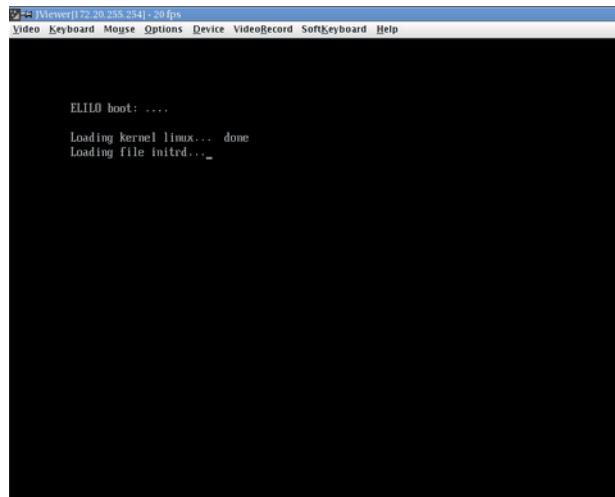

Figure 3-20 ELILO Boot Manager
6. The ELILO boot manager starts executing, as shown in Figure 3-20 on page 59.